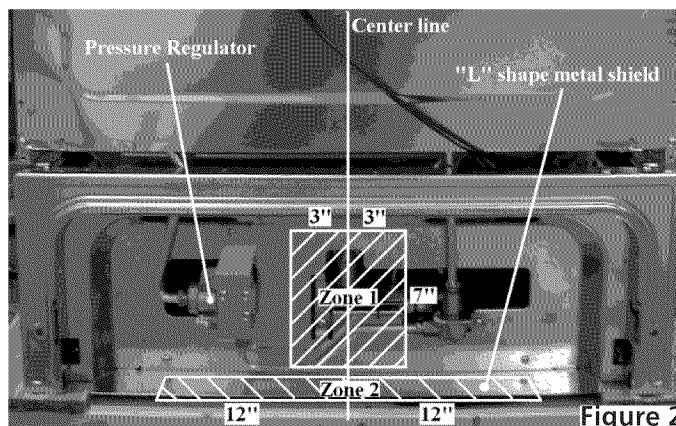

Figure 2
**The gas supply piping can be through the back wall (Figure 2, zone 1) or through the floor (Figure 2, zone 2):**